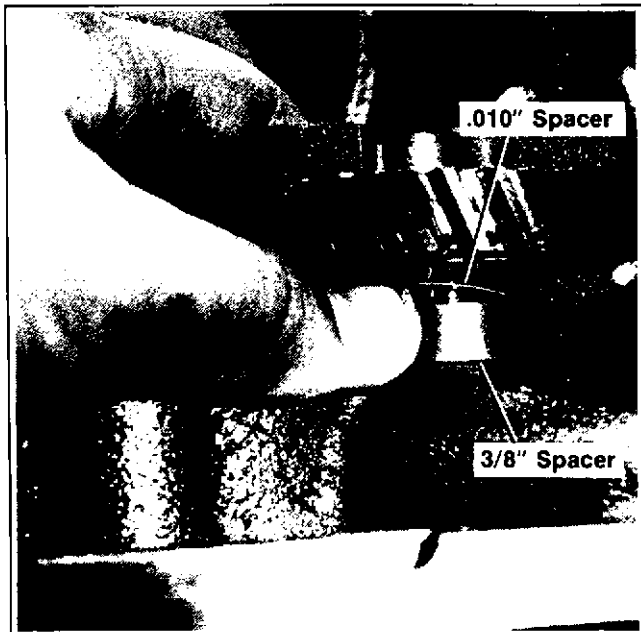

Figure 8-1. Installing Balance Gears
1. If the stub shaft is worn or damaged, press the old shaft out and install new shaft. Press the shaft in until it is 1.110" above the stub shaft boss - a 3/8" spacer must be used with the shaft (see Figure 8-1).